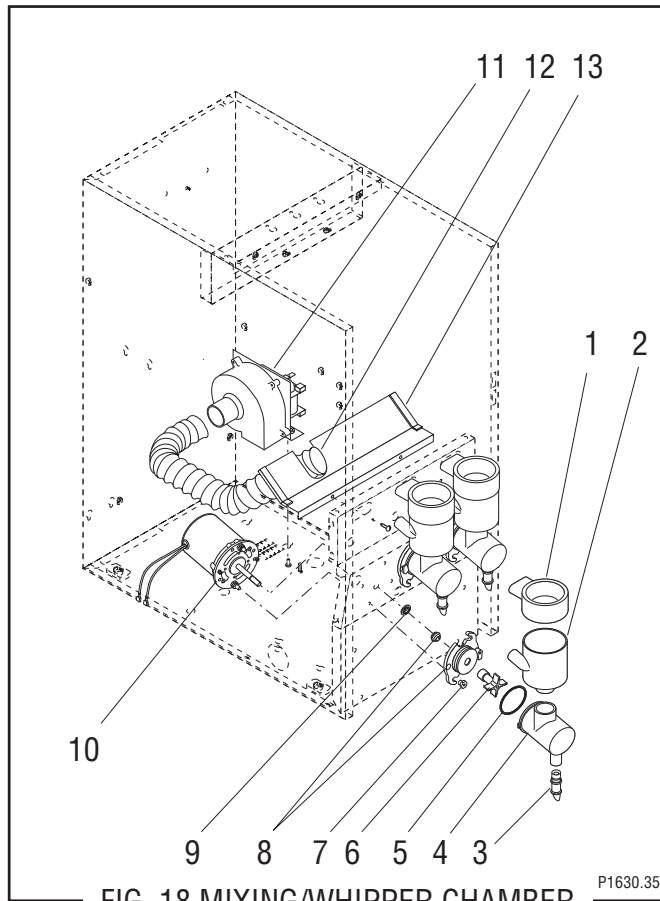

FIG. 18 MIXING/WHIPPER CHAMBER COMPONENTS
Removal, Cleaning and Replacement (Refer to Fig. 18):
6. Pull the mixing chamber (2) out of the whipper chamber (4).
7. Remove the two #4-40 x .25" screws securing the fan baffle (13) to the whipper motor mounting panel and remove fan baffle. Set aside for reassembly.
8. Remove dispense tip (3) and twist the whipper chamber (4) clockwise and pull it off the whipper chamber receptacle (8).
9. Pull the frother (6) off the motor shaft. Notice the flat side on the shaft and the matching flat inside the frother. It is important that these two flats are lined up when reassembling.
10. Slip the O-ring (5) off the whipper chamber receptacle (8).
11. To remove the receptacle rotate clockwise until the receptacle clears the nuts (7) and slide off of the motor shaft.
12. Slide the slinger (9) off of the motor shaft.
13. Remove the two nuts (7) securing whipper motor (10) to the front panel.
14. Disconnect the black leads on the motor (10) from the main wiring harness.
16. Install new motor (10) on rear of front panel and secure with two nuts (7) and connect black leads on the motor to the main wiring harness. Refer to Fig. 18 when reconnecting wires
17. Slide slinger (9) onto the motor shaft flush against the front panel.